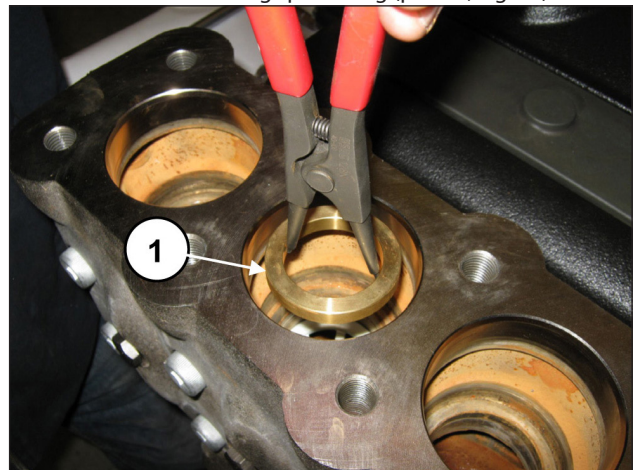

Fig. 99
Remove the valve housing spacer ring (pos. ①, Fig. 99).